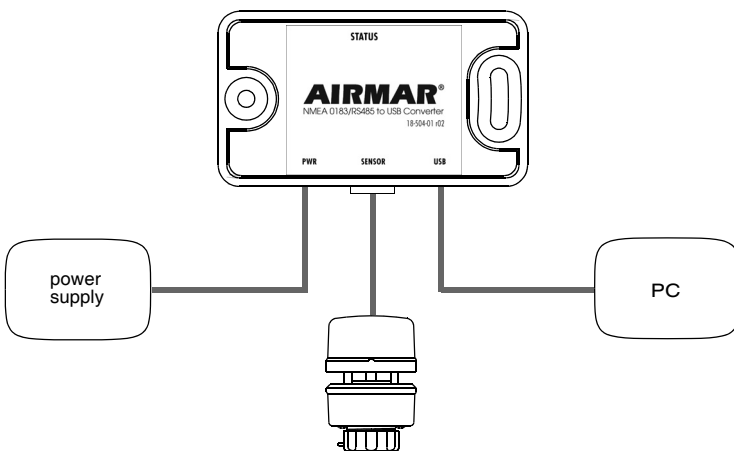

Figure 6. Converter installation
1. Select a convenient, dry, mounting location for the water-resistant Converter, a minimum of 1 m (3') from the PC (see Figure 6).